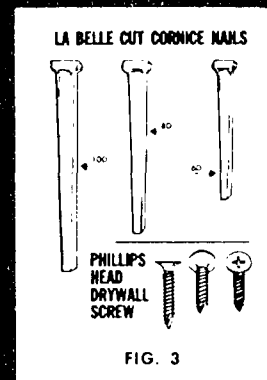

FIG. 3
5. Concrete nails. (6D, 8D, 10D for 1", 1½" and 2" systems. Wheeling LaBelle cut masonry nail recommended). (See Figure 3).